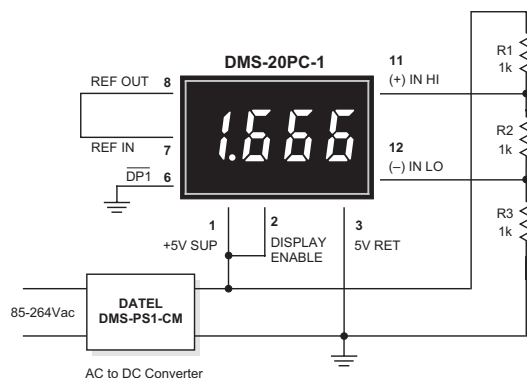

Figure 3. Differential Input Configuration
- 2. Differential Input Configurations:** Differential measurements can be made with all DMS-20PC meters. Figure 3, though not a practical real-world application, uses a voltage divider to demonstrate the concept of a differential input signal. Be careful not to exceed the $\pm 2V$ common mode voltage limitation for 5V-powered meters.